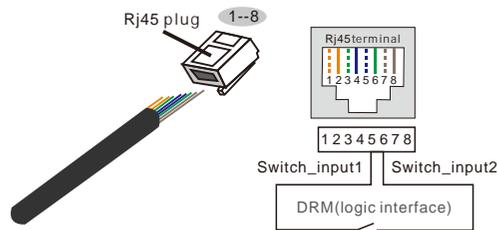

Figure 5.29 Strip the insulation layer and connect to RJ45 plug
2. Use the network wire stripper to strip the insulation layer of the communication cable. According to the standard line sequence of figure 5.29 connect the wire to the plug of RJ45, and then use a network cable crimping tool to make it tight.